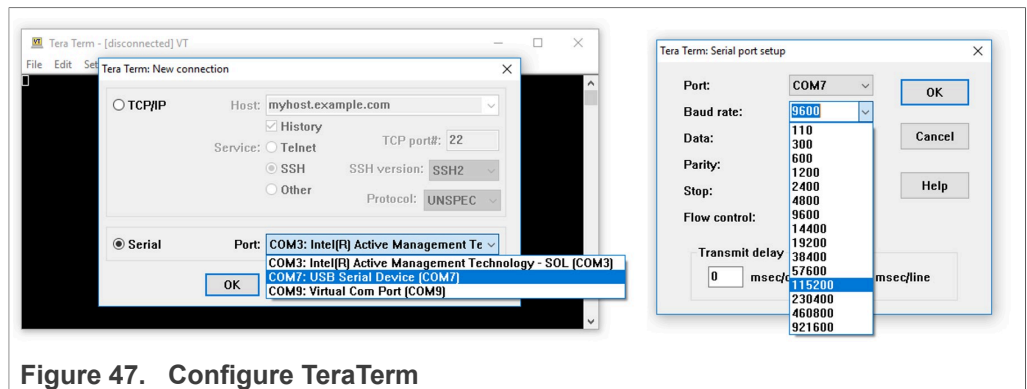

Figure 47. Configure TeraTerm
2. Open TeraTerm, go to Setup > Serial Port and configure the terminal to 115200 baud rate, 8 data bits, no parity and 1 stop bit and click OK as shown in Figure 47: